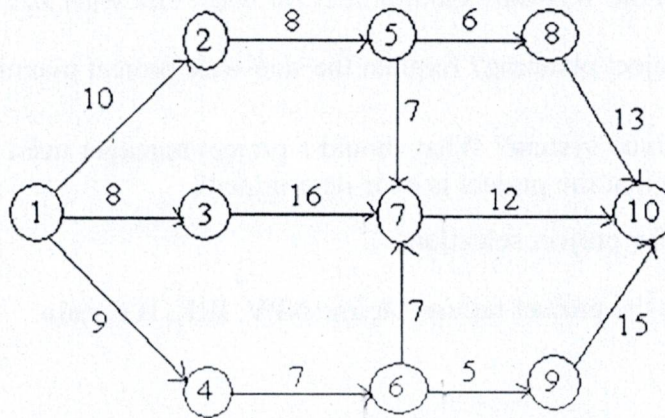

Figure 2(c)
- 7 (a) Describe the tension pile and compaction pile using the appropriate figure. 2
- (c) Determine the early start and late start in respect of all node points and identify critical path for the network shown in figure 2(c). 05